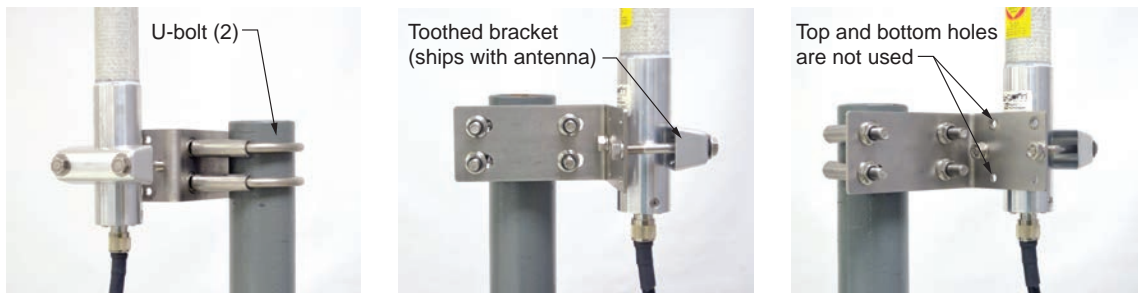

Figure 2.8—Optional 2-in. pipe mount bracket
To install the antenna, reference Figure 2.8 while following the instructions below:
2. Position the L-shaped bracket against the pipe so that the pipe is on the outside of the “L” and secure it to the pipe with the two U-bolts and four U-bolt nuts (Figure 2.8, left). The U-bolts will pass through the widest panel of the “L” bracket.
5. Place a flat washer over each of the 5/16-in. bolts and insert the bolts through the holes in the toothed bracket and through the center holes in the L-bracket panel (Figure 2.8, center and right).
8. Holding the antenna in place, tighten the two 5/16-in. nuts on the inside of the L-bracket to secure the antenna (Figure 2.8, right).